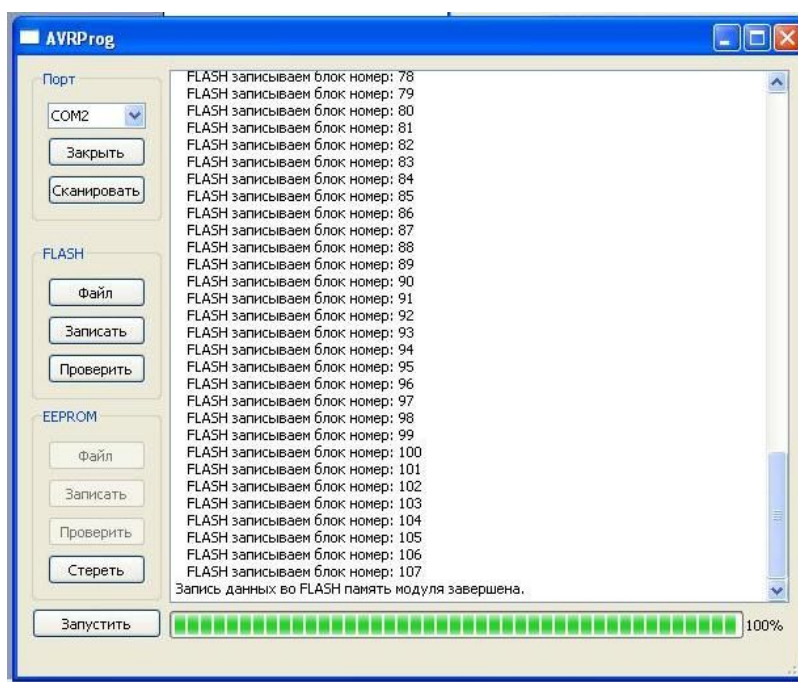

Fig.6
6. Click the “Record” button. If the weaving is changed successfully, the window is to display the same as on Fig. 6.